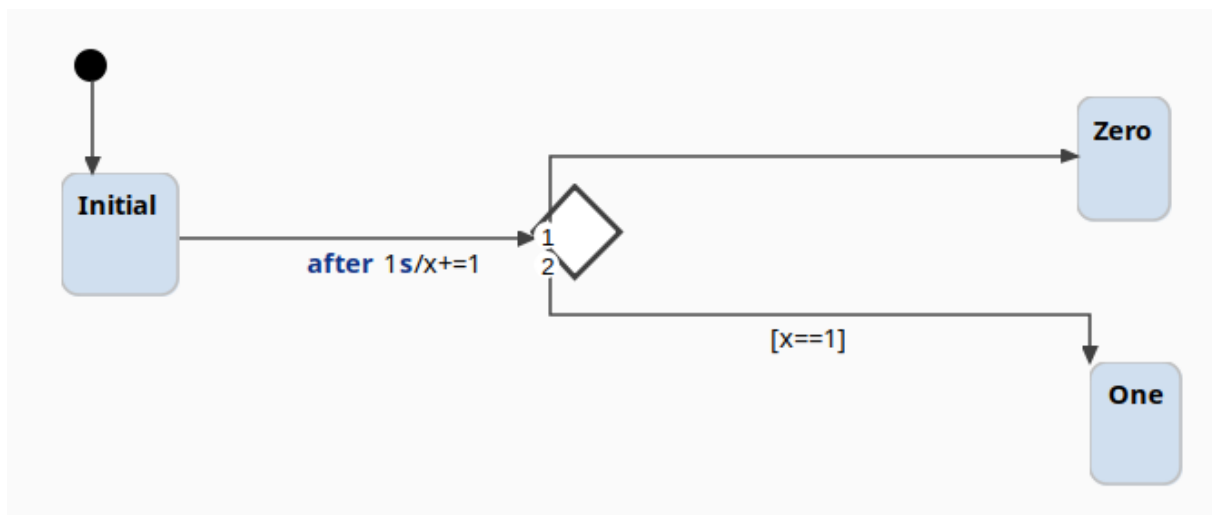

Figure 4: Solution to exercise C
3. Yes, it does indeed fix it. Looking at figure 4 we can see that now based on the value it makes a choice. The choice element makes a decision based on the changes that happen on variable x. Note that we did not add an extra guard to the zero transition, this is because the choice element prefers having a default transition. Works the same if the guard was added.